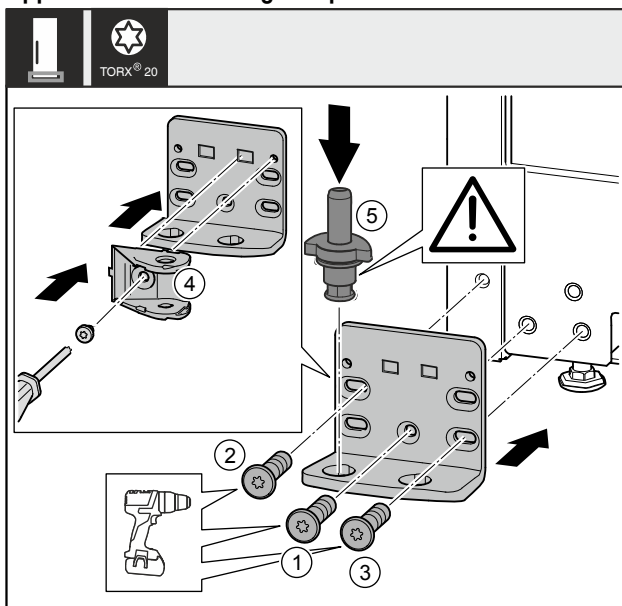

Fig. 36 \*
- ▶ Place the swap bearing block on the other side and use a screwdriver to screw it on. Start with screw Fig. 36 (1) at the bottom in the middle.\*
- ▶ Tighten screw Fig. 36 (2) and screw Fig. 36 (3).\*
- ▶ Turn the closing damper connection Fig. 36 (4) by 180°. Use screwdriver to screw it onto the other side of the swap bearing block.\*
- ▶ Insert the bearing bolt Fig. 36 (5) completely. Ensure that the latching cam is pointing towards the rear.\*